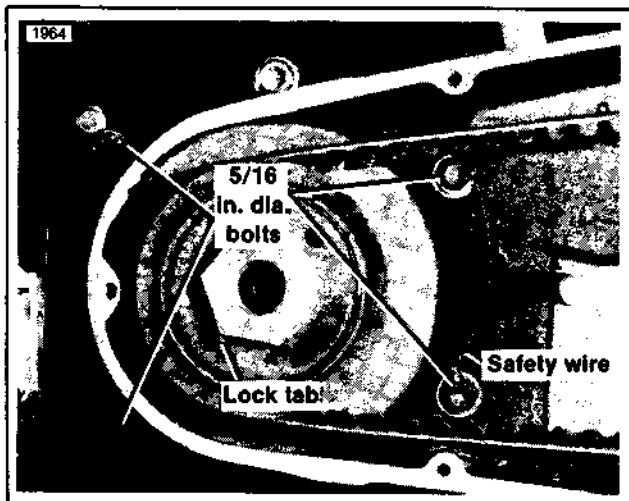

Figure 1. Inner Primary Mounting
2. See Figure 1. Bend lock tabs away from nut and remove compensating sprocket shaft nut.
4. See Figure 1. Cut and remove safety wire. Remove four 5/16 in. dia. bolts securing inner primary to crankcase.
8. See Figure 1. Install a new safety wire through inside bolts.